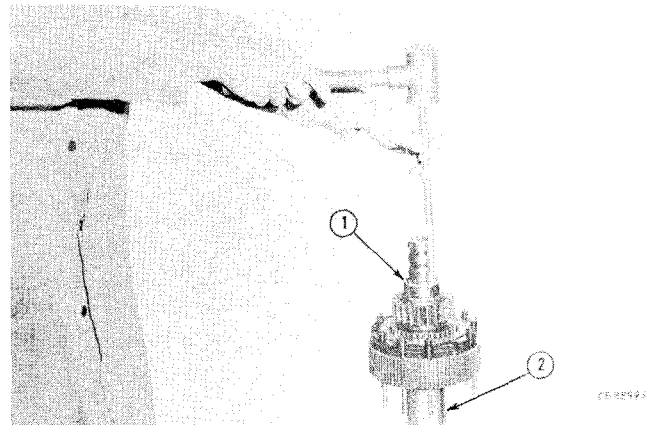

Figure 4-129
Heat the bearing inner race (1, Fig. 4-129) to approximately 250°F. in oil or an oven. Place it on the clutch shaft (2). Use a mallet and a soft drift to tap it into place.